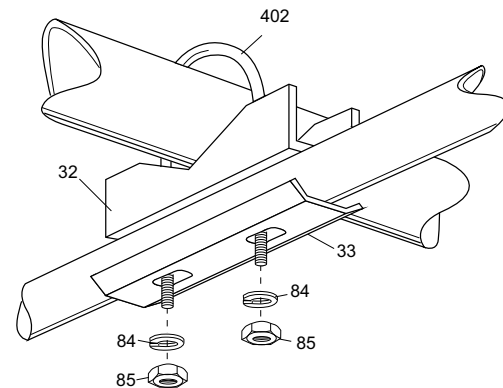

FIGURE B-2
The elements are made up of one pre-drilled and slotted 3/4" (1.9 cm) O.D. center tube and two pre-cut 5/8" (1.59 cm) O.D. end tubes. Assemble the elements using Figure B for horizontal polarization or Figure B-2 for vertical polarization. Slide the tuning strap (69) on one of the EA tubes. This will be the driven element #2. Place telescope clamps (409) loosely on the slotted ends of all EA tubes. Note that the EC tubes must be used with the EA tube on which you placed the tuning strap (69). Attach caps (27) to the end of each element. Mount the elements to the boom (Figure C). Refer to figure D for mounting the dipole element with the connector bracket. Mount the connector with the threads (socket) pointing to the mast mount. Adjust the antenna to your preferred portion of the 6 meter band using Table 1 if you've chosen horizontal polarization or Table 2 for vertical polarization. Tighten all connections.